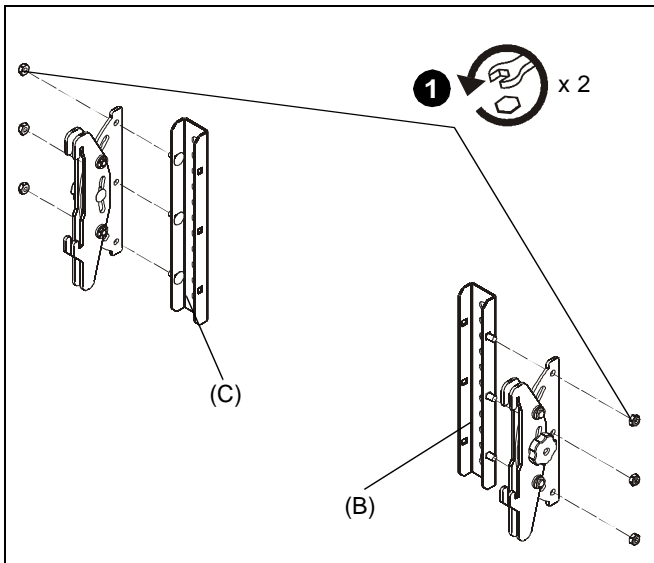

Figure 4
1. Remove hex nuts from interface brackets (B and C) to disassemble brackets. Set aside hardware and hanging brackets to be used in re-assembly. (See Figure 4)